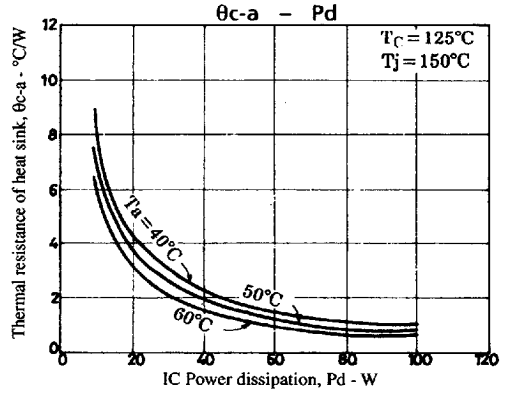

Figure 2. STK4231II  $\theta_{c-a} - P_d$
Figure 2 shows the relation between  $P_d$  and  $\theta_{c-a}$  given from (1) and (3) with  $T_a$  as a parameter.
The thermal resistance of a heat sink is obtained from Figure 2.